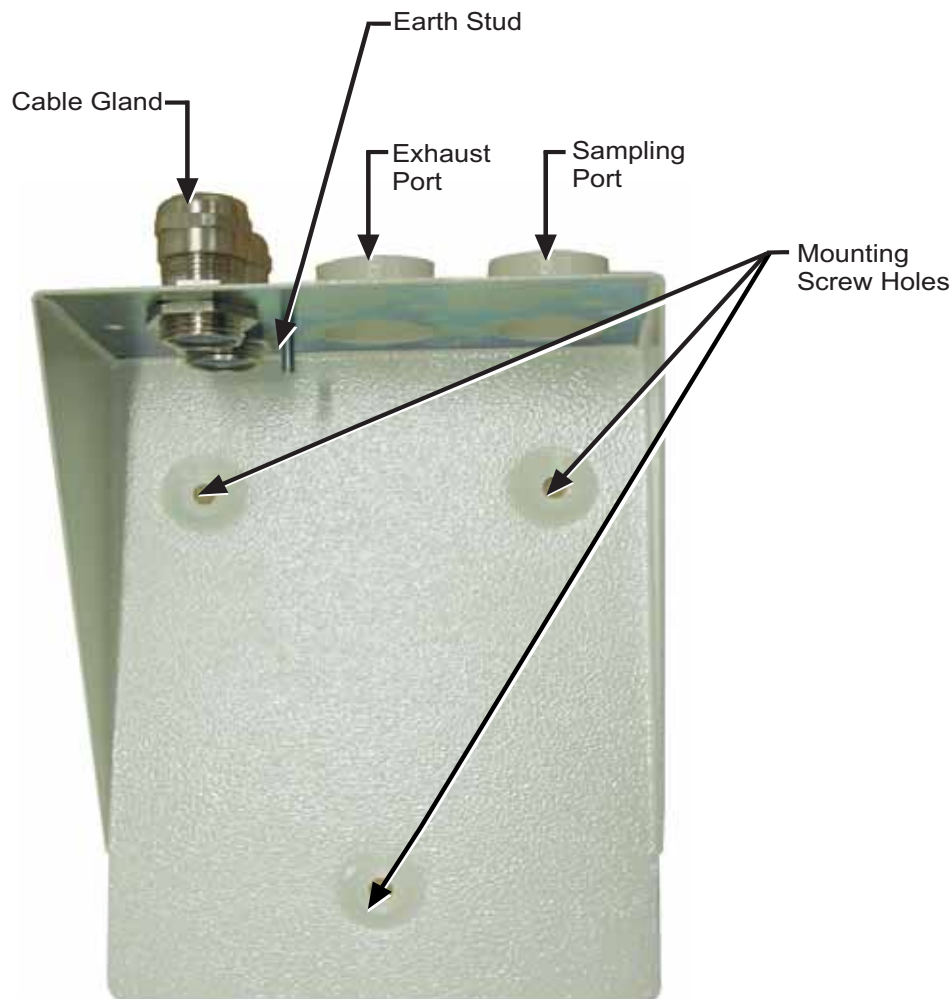

Figure 1-6. Piped Exhaust Docking Station
pipework network. The exhaust port allows the detector exhaust air to be taken back to the area of different atmospheric pressure from which the inlet is sampling, when required. (Refer to Figure 1-6.)
The ASD-160H is supplied with a Docking Station (as shown in Figure 1-6). This allows the ASD-160H detector to sample from areas which may be at different air pressure from the detector location. Typical uses are for air duct sampling and allowing the installation of the detector in under-floor or ceiling voids or when sampling from pieces of computer related equipment.
The docking station is connected to the installed sampling pipework and fixed to the mounting surface using three screws of a type appropriate to the mounting surface. Ensure that the sampling and/or exhaust pipes are securely seated in the pipe ports before securing. If using a piped exhaust docking station, be sure that the sampling and exhaust pipes are fitted into the relevant ports as shown in Figure 1-6 of Chapter 1.
4. Connect a second wire from the "Earth" terminal to the docking station ground stud. Figures 1-6 shows the location of the ground stud for both types of docking stations.